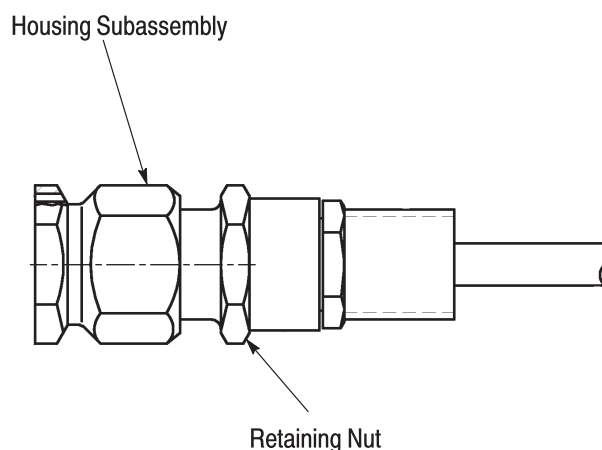

Figure 5
3.4. Securing the Housing to the Inner Sleeve Subassembly (Figure 5)